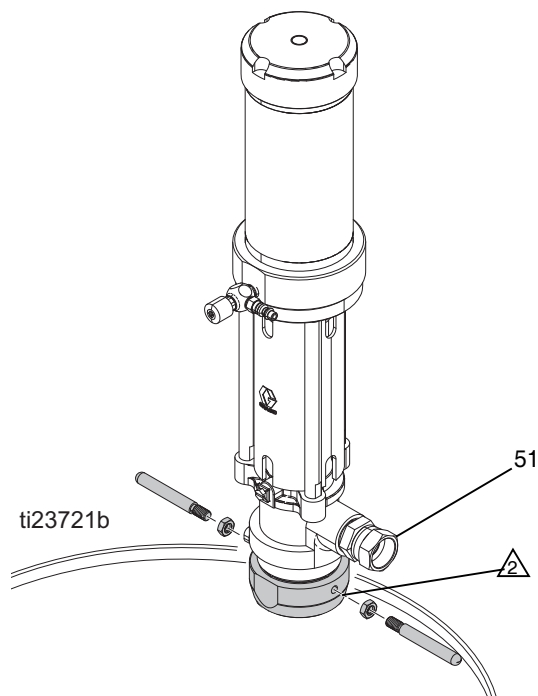

FIG. 7
4. Lubricate the bung adapter inside diameter and mounting threads. Install supplied handles and tighten the jam nuts. Install supplied handles and tighten the jam nuts. Ensure the gasket is in place and screw the bung adapter (51) securely into the bung hole of the drum. Insert the pump through the adapter and lock it in place. See FIG. 7.